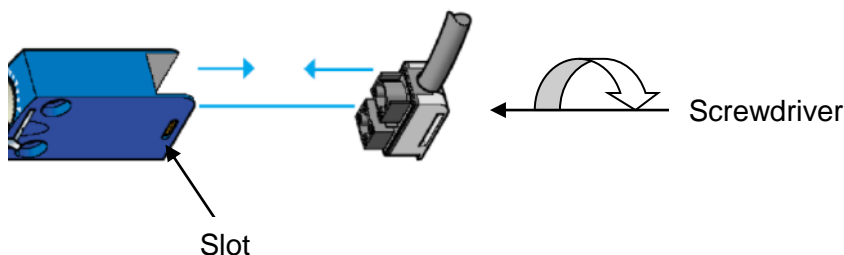

Fig. 5.1
Fig.5.1. Unlock the connector by insert the screwdriver behind the connector and turn it a 1/4 of a turn counter-clockwise and then insert the screwdriver into the slot at the side to release the connector.
3. Remove the 2 connectors of opening and wear contacts Fig.5.1.